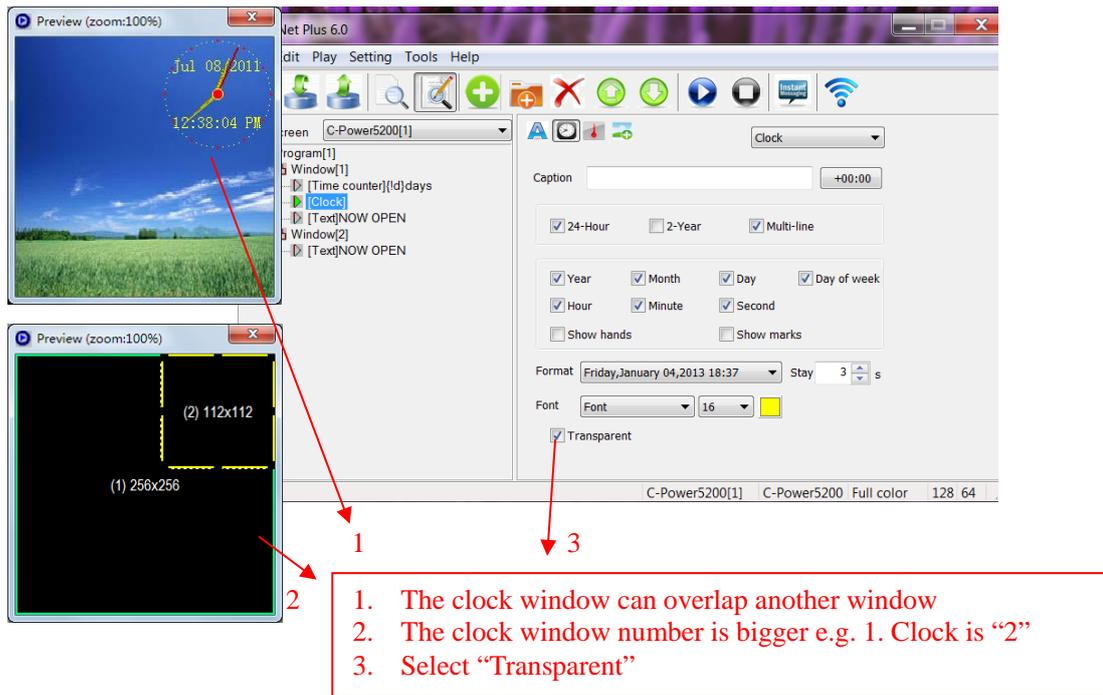

Figure26 To set up transparent clock display
- Clock transparent display: as shown in Figure26. User needs to follow these 3 steps to achieve the transparent display effect.
D. Transparent: The same as the clock program, the counter can be set to transparent and overlap on other window. Refer to Figure26.